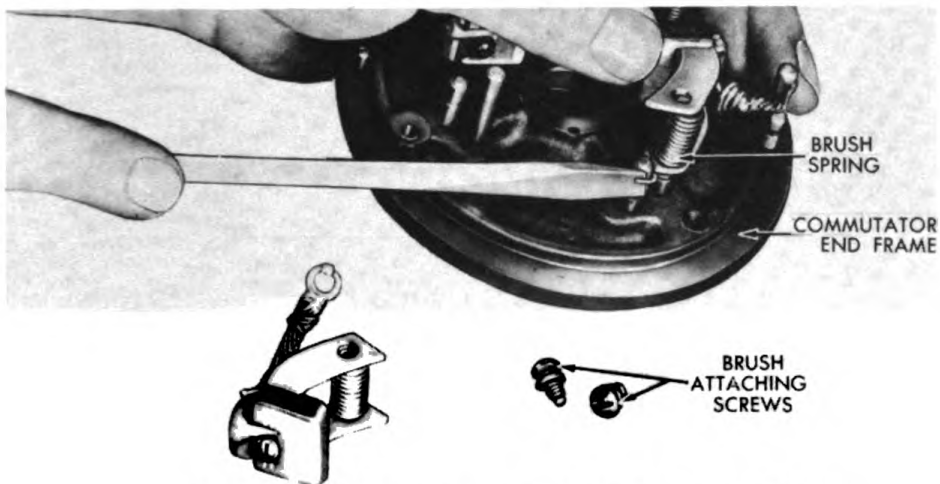

Figure 242. Removing Brush Holders and Spring.
- d. To attach the commutator end frame, place the thrust washer on the armature shaft and cock the brush holders and slip the commutator end assembly into place on the field frame. See figure 242. Insert the two through bolts and lockwashers. Attach the two field coil leads to the brush lead clips with two screws and lockwashers. Install the cover band.
Detach brush springs by catching straight section of springs with pliers or screw driver and lifting off with brush holders. See figure 242.